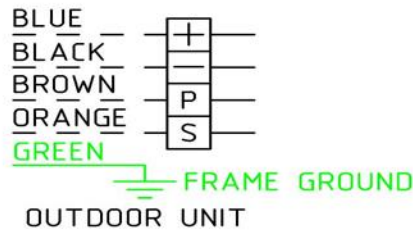

Figure 18
2. Connect the connective cables to the terminals as identified with their respective matched numbers on the terminal block of indoor and outdoor units. See figure 18.